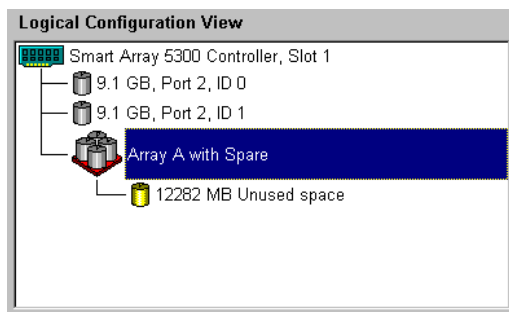

Figure 7-16: Logical Configuration View of Example Array
The **Logical Configuration View** window now looks like Figure 7-16.
1. Select **Array A** or **Unused Space** under Array A in the **Logical Configuration View** window (Figure 7-16).